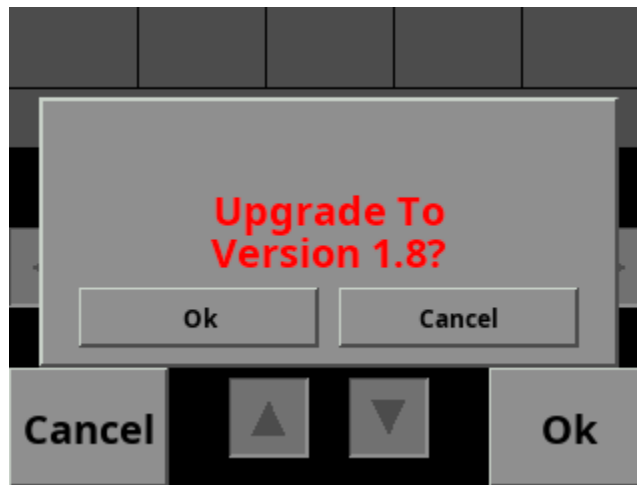

Figure 15: Upgrade Firmware File Confirmation
- STEP 6: Press the Ok button to select a file. A confirmation box similar to Figure 15 will appear.